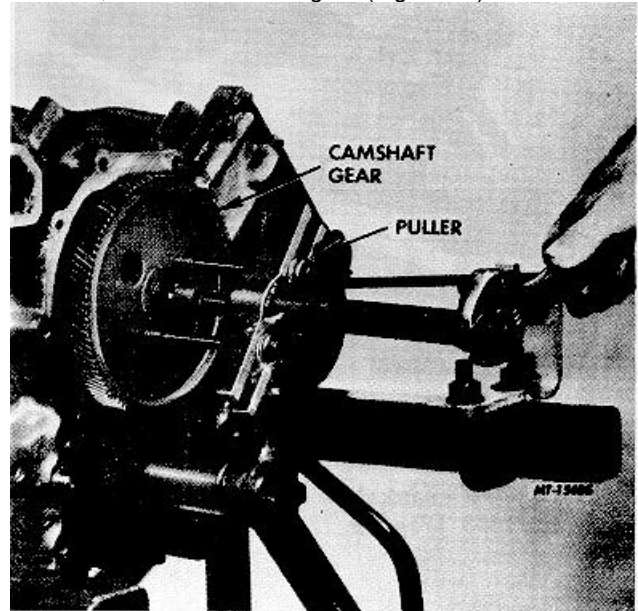

Fig. 74 Removing Camshaft Gear
- a. Remove camshaft nut and spacer. Using puller SE-1368, remove camshaft gear (Figure 74).